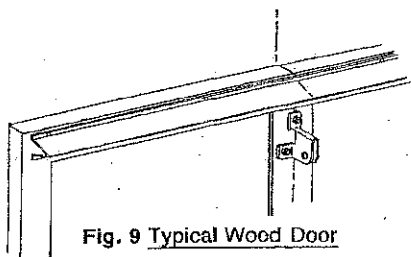

Fig. 9 Typical Wood Door
8. Place door bracket (Fig. 9).
NOTE: Door constructions differ. You may have to modify the basic procedure. You may need additional materials. Parts are supplied for typical wood door only (Fig. 9).